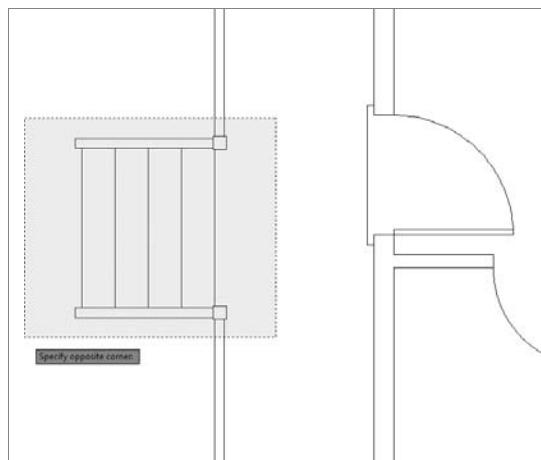

FIGURE 5.36 Select the stairs for the next STRETCH command.
3. Create a crossing selection window around the stairs, stair handrails, and stair posts, as shown in Figure 5.36.